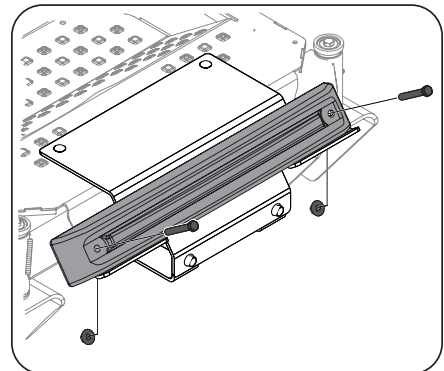

Figure 4-22
7. Place counterweight (719-04271A) on the bracket (703-11046) and align with tabs. Secure counterweight with 2 bolts (710-0859) and 2 nuts (712-04217). See Figure 4-22.